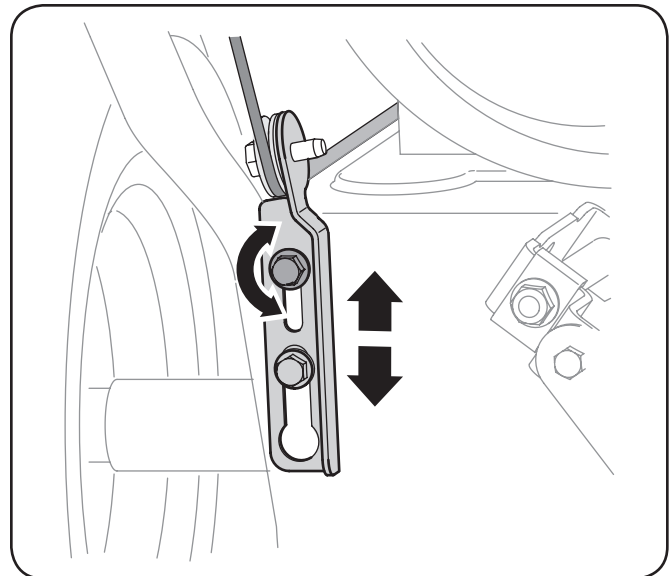

Figure 3-21
4. Allow the auger to remain engaged for approximately ten (10) seconds before releasing the auger control. Repeat this several times.
7. To readjust the control cable, loosen the upper hex screw on the auger cable bracket. See Figure 3-21.